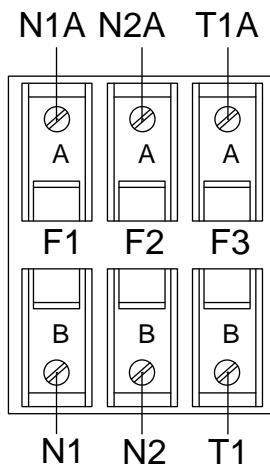

Figure 160. Transfer Switch Fuse Block
5. Remove fuse F3 from the fuse holder. (see Figure 160).